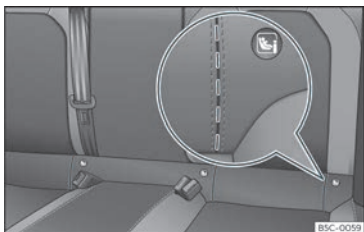

Fig. 31 Rear seat: die cut slots to access the ISO-FIX / iSize securing rings.
rings are secured to the seat frame and, in others, they are secured to the rear floor. The “ISO-FIX” rings are located between the rear seat backrest and the seat cushioning >>> **Fig. 31**. The Top Tether rings are located on the rear part of the backrests of the rear
- Open the cut-out section behind the marked grooves to access the retaining rings >>> **Fig. 31**.